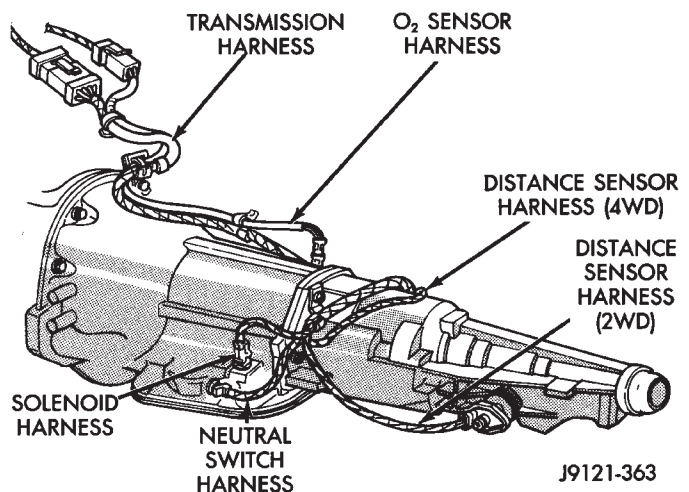

Fig. 13 Transmission Wire Harness Identification
(1) Shift transmission into Neutral.
(2) Raise vehicle.
(3) Remove gearshift and throttle levers from shaft of valve body manual lever.
(4) Disconnect and remove neutral switch.
(5) Disconnect valve body overdrive and converter clutch solenoid wires at case connector (Fig. 13).